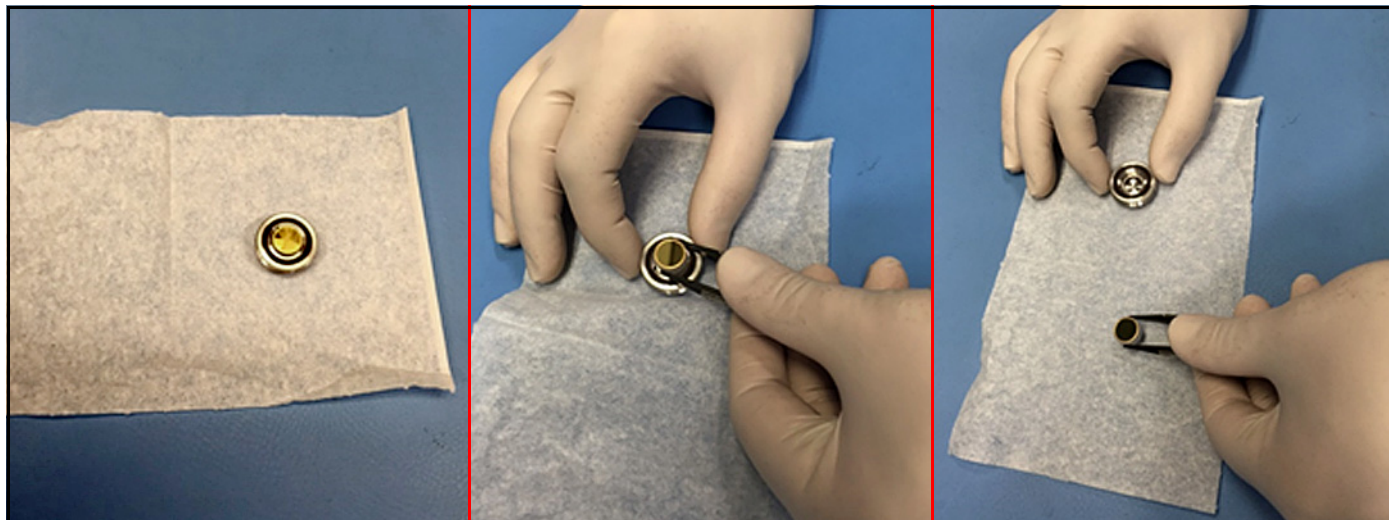

Figure 88: Inspecting the Mirror Assembly
3. Gently place the extracted mirror assembly on a clean lens tissue. Using a pair of plastic-tipped tweezers gently extract the 0.5" diameter mirror from the end cap, taking care not to touch, squeeze or nick the two O-rings in the end cap assembly (see *Figure 88* below).